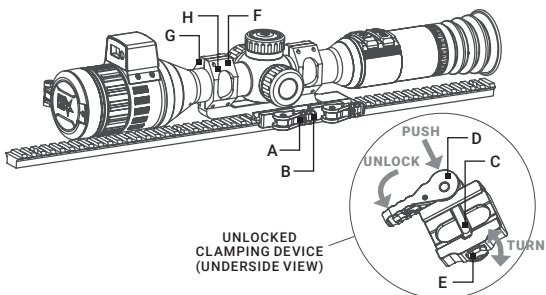

FIGURE 2-6. INSTALLATION WITH QUICK RELEASE MOUNT
The Spectrum LRF 4K scope be can mounted on a Picatinny/Weaver rail using optional AGM quick release (QR) mount (Figure 2-6).